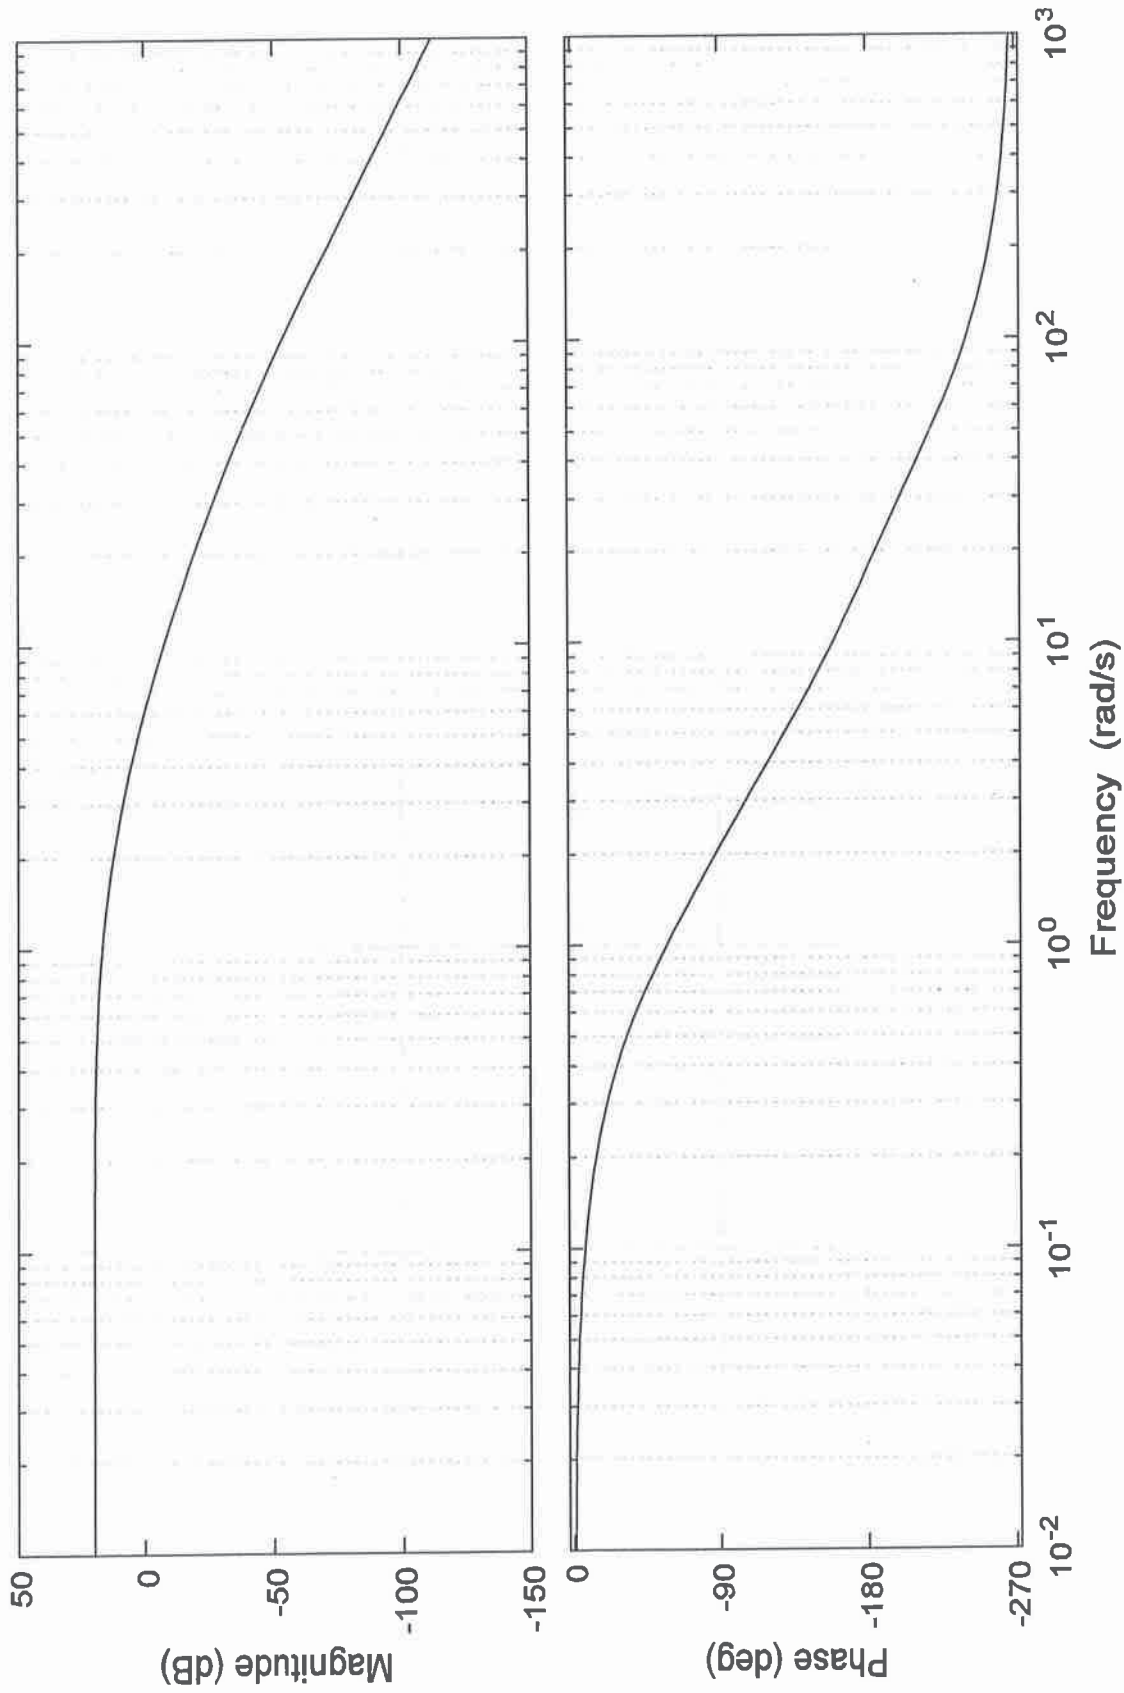

Figure Q3.1 - Open Loop Frequency Response Plots for Lead Design
The uncompensated Open Loop Frequency Response plot is shown in Figure Q3.1. The design requirements are:
- 3) **(12 marks)** Sketch an approximate shape of the compensated Open Loop Frequency Response plots in Figure Q3.1 – clearly indicate the DC gain, the crossover frequency and the Phase Margin. Calculate the appropriate Lead Controller parameters and the Controller transfer function. Next, estimate the compensated closed loop step response specs:  $e_{ss(step\%)}$ ,  $T_{rise(0-100\%)}$ ,  $T_{settle(\pm 2\%)}$  and  $PO$ .